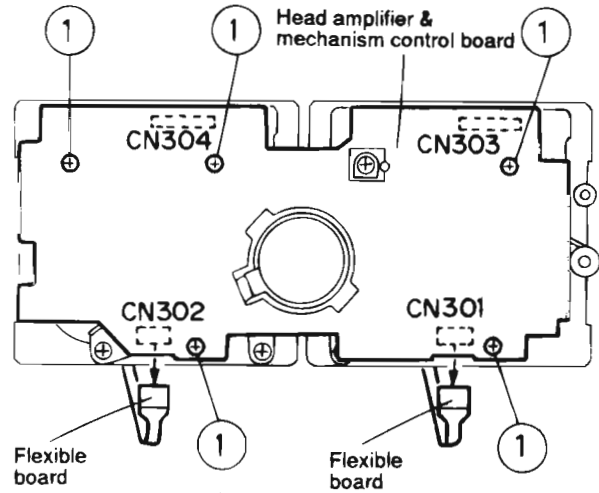

Fig 4
■ Removing the head Amp. and Mechanism Control P.C. Board (See Fig 4)
2. After turning over the cassette mechanism assembly, remove the five screws ① retaining the head amp. and mechanism control P.C. board